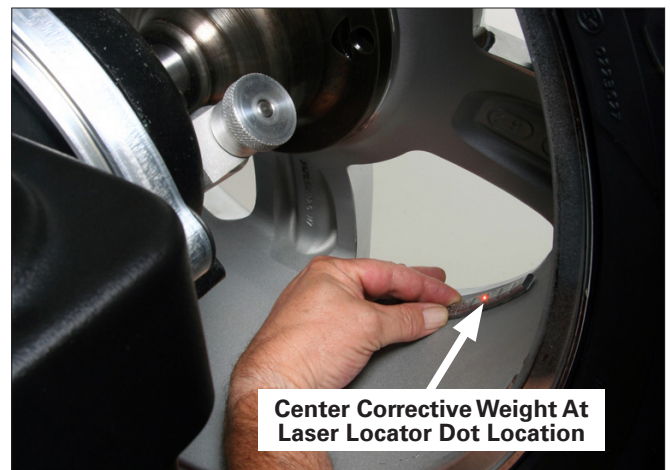

Figure 17 - Centering Corrective Hidden Weight at Laser Dot Location.
**8.** Center and attach the outboard corrective weight at laser dot location as shown in figure 17.